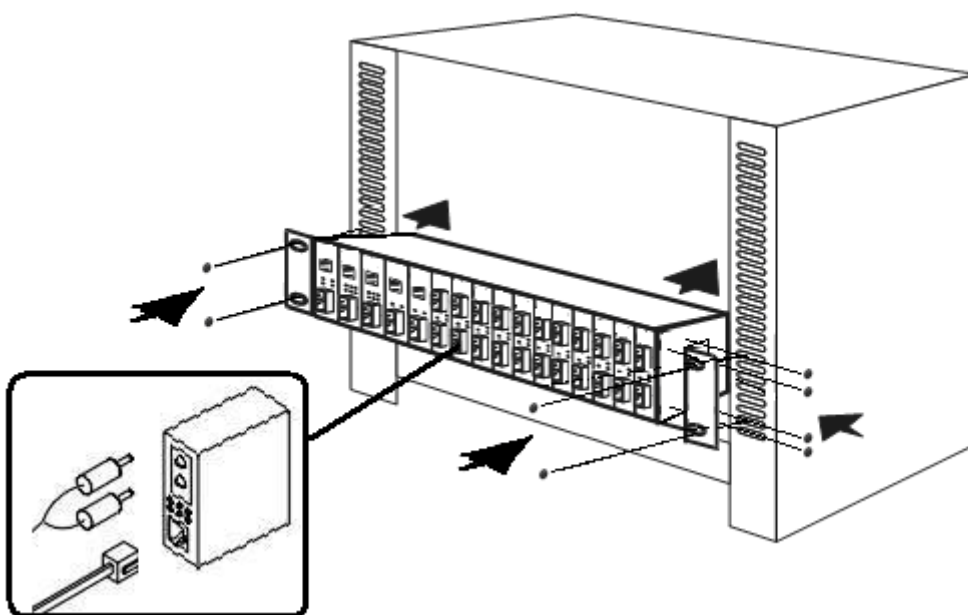

Figure 2-9 Mounting the Chassis in a Rack
Step 4: After the brackets are attached to the chassis, use suitable screws to securely attach the brackets to the rack, as shown in Figure 2-9.